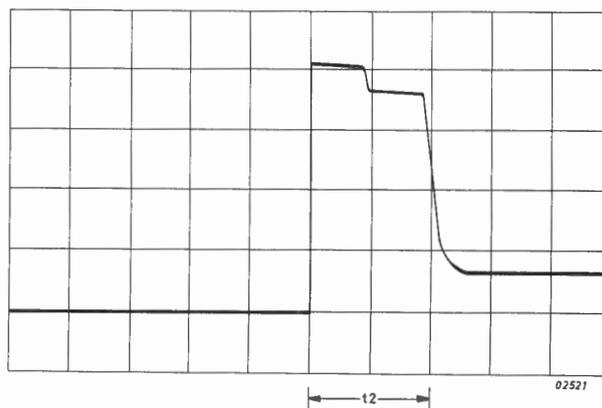

Figure 8.2B VERTICAL REFRESH PULSE WIDTH
- f. Reset horizontal setting to $0,2\text{ms}$ on the oscilloscope and observe waveform, see figure 8.2B, for $t_2 = 450 - 500\text{nS}$.